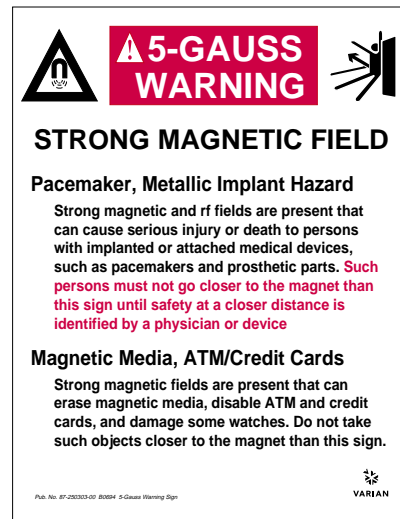

Figure 9. 5-Gauss Warning Sign
2. *5-gauss warning signs (Figure 9)* – Post along the 5-gauss perimeter of the magnet so that a sign can be easily seen by any person about to enter the 5-gauss field from any direction. Refer to the manuals supplied with the magnet for the size of a typical 5-gauss stray field. Check this gauss level after the magnet is installed. Note that the stray field may extend vertically to adjacent floors, and additional signs may be needed there.